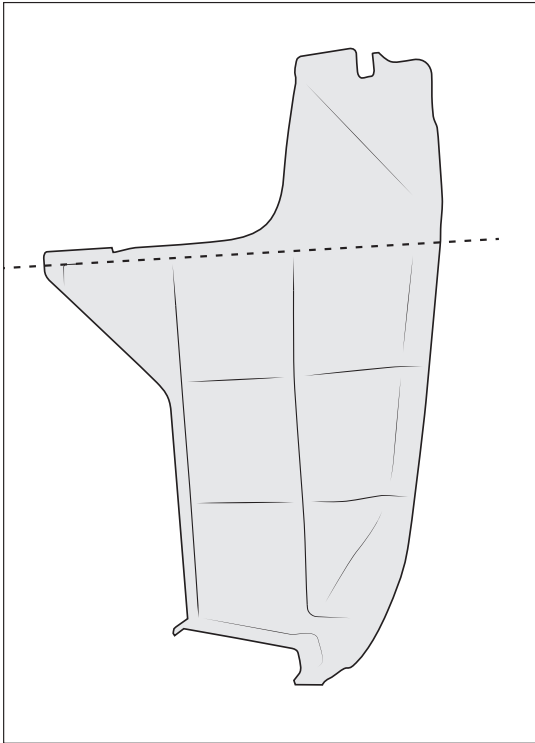

Figure 22
- A. Trim plastic support using the top rib as the cut line (fig. 22).